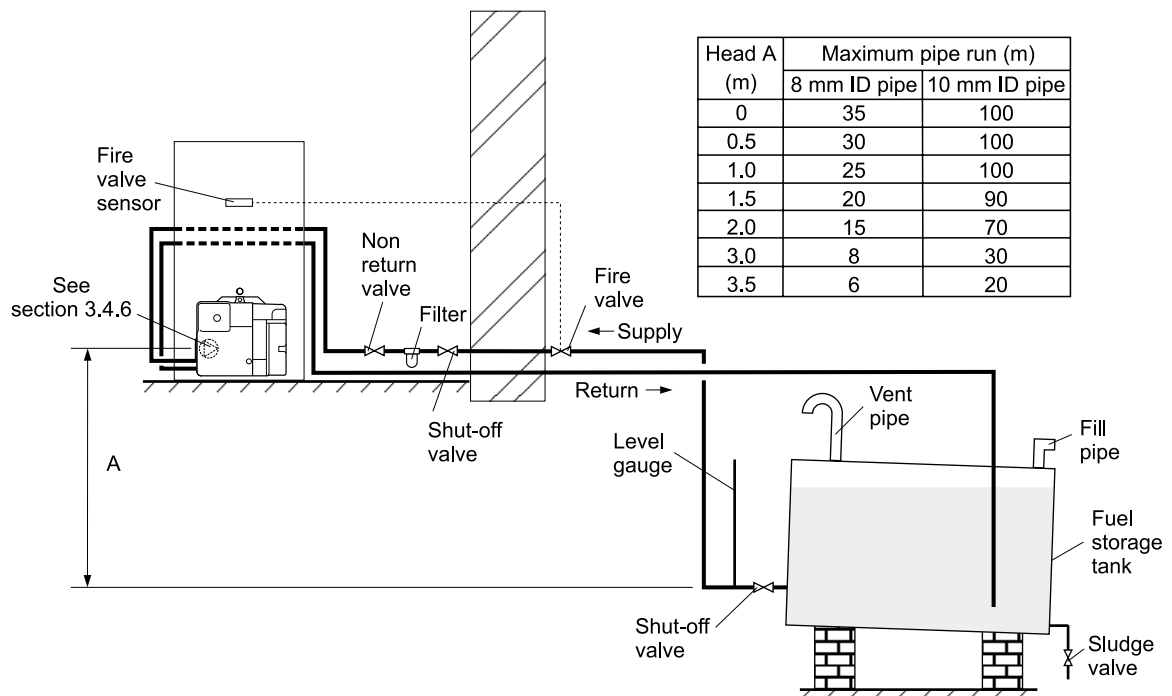

Fig. 3 - Two pipe system
3.4.4 Two pipe system - (See Fig. 3)
- When the storage tank outlet is below the burner, the two pipe system should be used. The pipe runs should be as shown in Fig. 3. The return pipe should be at the same level in the tank as the supply pipe, both being 75 to 100 mm above the base of the tank. The pipe ends should be a sufficient distance apart so as to prevent any sediment disturbed by the return entering the supply pipe.
- 4 To be used with a two-pipe system, the burner **must** be fitted with an additional flexible fuel line (a flexible fuel line (900 mm) and $\frac{3}{8}$ " to $\frac{1}{4}$ " BSP male adaptor are available from Grant Engineering (UK) Limited). See section 3.4.6.